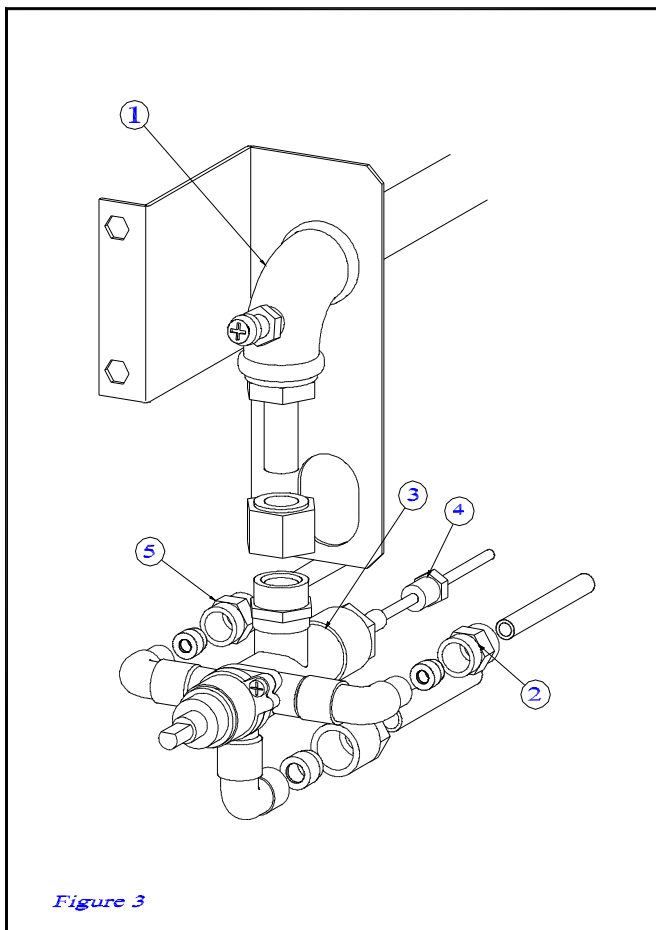

Figure 3
EXCHANGE (figure 3)
SERVICING (figure 3)
REMOVE/REPLACE (figure 3 & 4)
2. Disconnect the Thermocouple (figure 3, item 4) at the rear of the gas control tap.
REMOVE/REPLACE (figure 3)